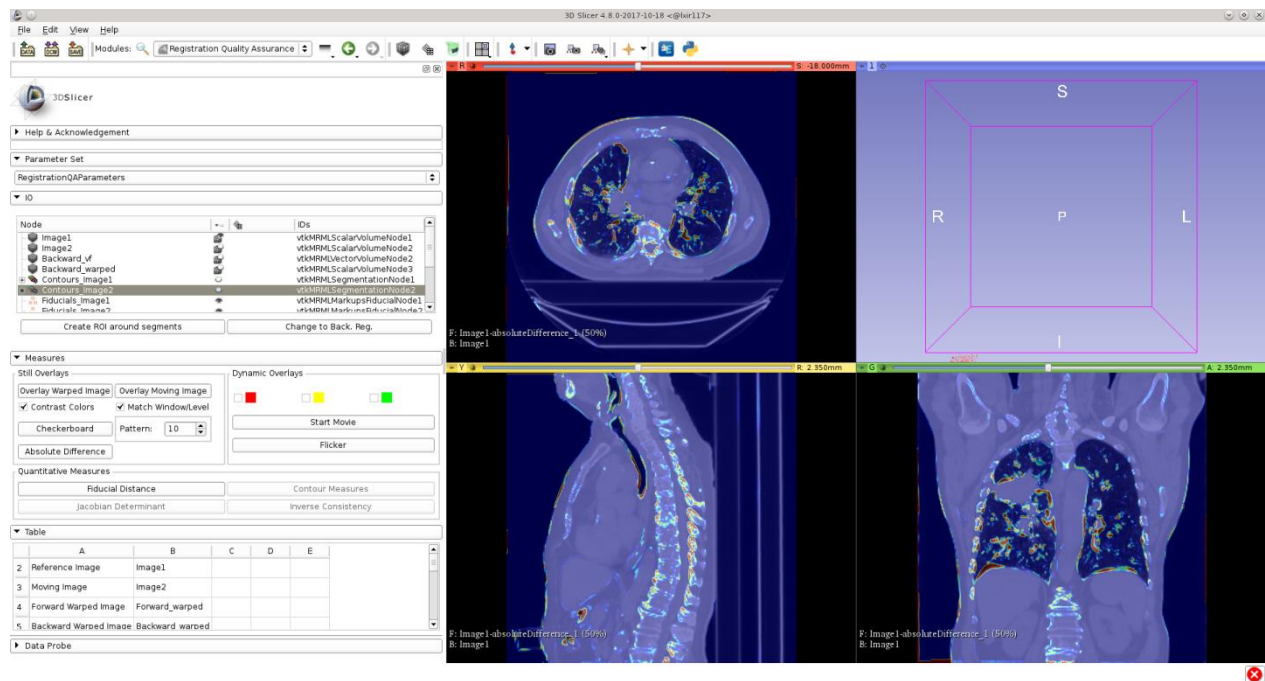

Figure 5 - Absolute difference overlay on top of reference image.
*Absolute difference* button will produce an image where each voxel is an absolute difference between values in forward warped and reference image. It corresponds to Measure 3 and mean square error metric, which is commonly used in registration. Details shown in Figure 5.